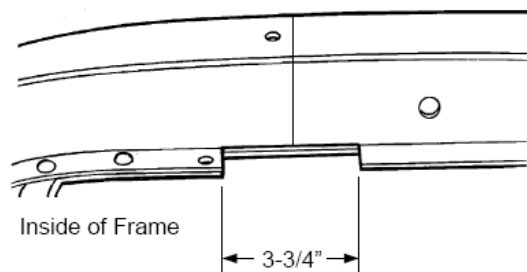

Figure 4- Trim Flange
5. The flange on the inside of the frame rails must be trimmed away in the area of the new center crossmember. Trim off the flange for a 3- 3/4" length, 1-7/8" in front and 1-7/8" in back of the centerline mark. (See **Figure 4**)